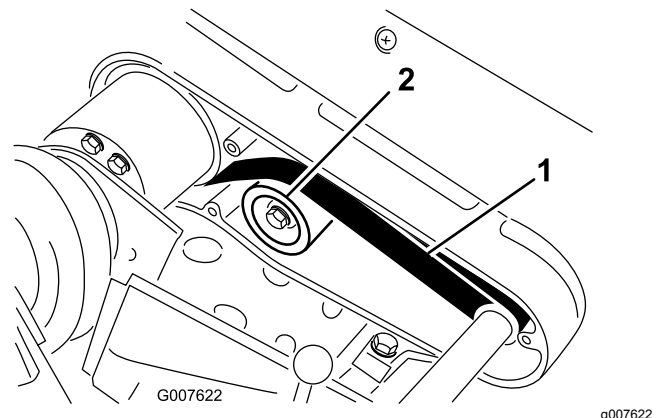

Figure 40
2. Check the tension by pressing the belt at mid span of the pulleys (Figure 40) with 22 to 26 N (5 to 6 lb) of force.
- A. Loosen the idler pulley mounting nut and pivot the idler pulley clockwise against the backside of the belt until the desired belt tension is attained (Figure 40).